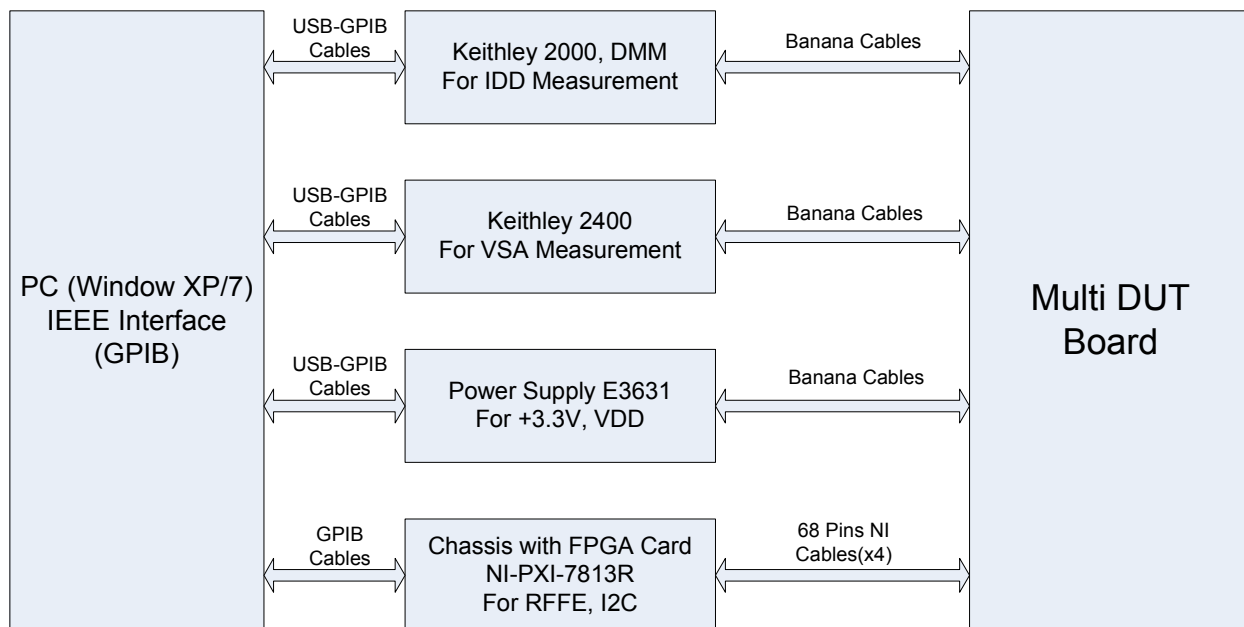

Fig 1. Test Setup Block Diagram
- Fig. 1 below is the test set-up block diagram for WS1050 Reliability Test, Multi DUT
- Using banana plug cables to connect all test equipments as the Fig. 1 below.